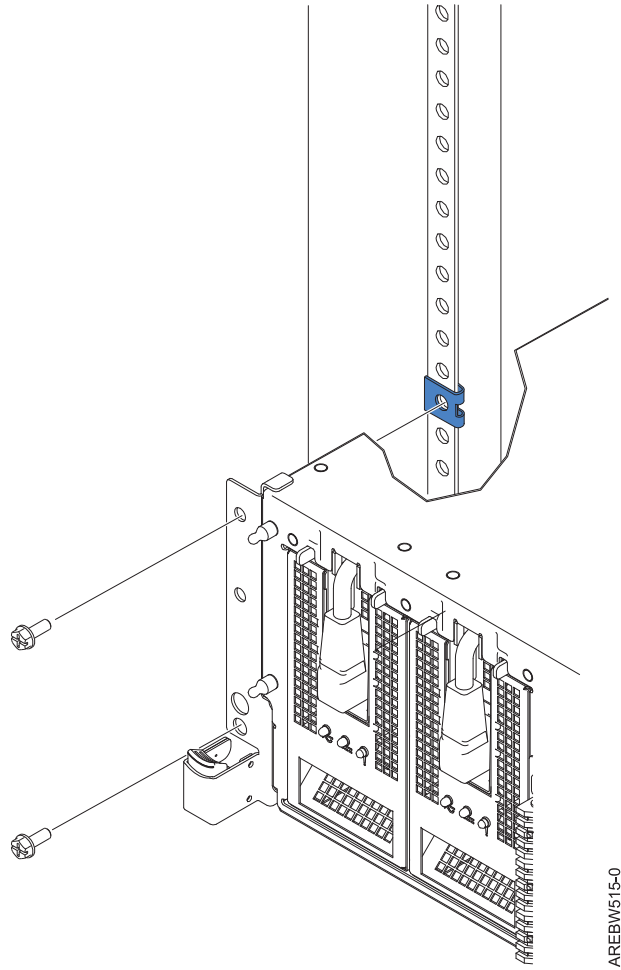

Figure 30. Secure system to rack through rack latches
11. Install and position the nut clips before inserting the screws. Use the retaining screws to attach the system to the rack as shown in Figure 30 on page 38.